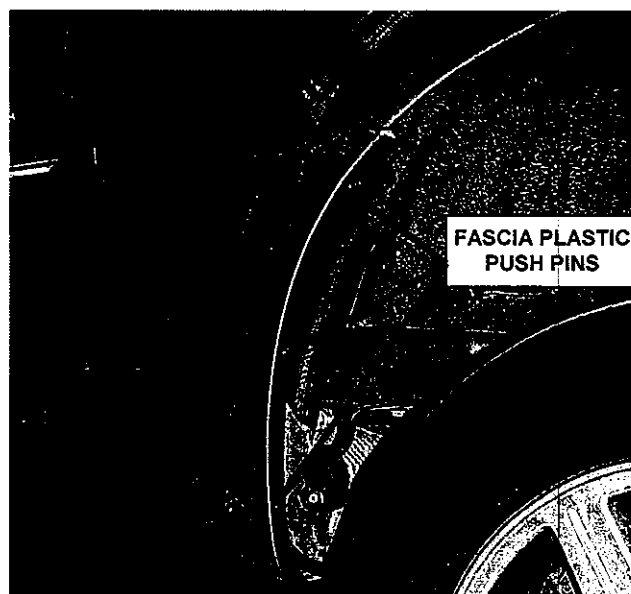

Figure 1 – Fascia Plastic Push Pins
2. Remove and save the three rear fascia plastic push pins located on the backside of the right rear wheel opening (Figure 1).
- 11. Install the three push pins located on the backside of the right rear wheel opening (Figure 1).